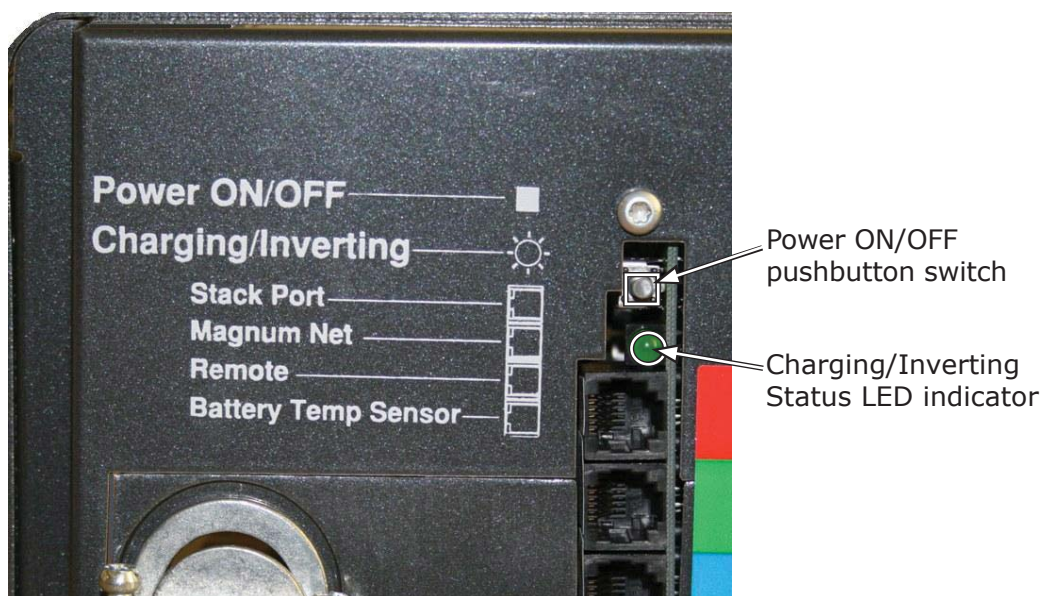

Figure 3-5, Power Switch and Status Indicator
**Power ON/OFF Switch** – The inverter can be turned on and off by lightly pressing and releasing the Power ON/OFF switch on the front of the inverter (see Figure 3-5). When the inverter is first connected to the batteries, or when its automatic protection circuit has turned the inverter off, the ON/OFF switch will need to be pressed to start the unit (or reset per Section 4.4). Once the inverter has been turned on, pressing the Power ON/OFF switch alternately turns the inverter on and off.
**Status LED Indicator** – The status indicator is a green LED (Light Emitting Diode) that provides information on the operational mode of the inverter. Watch this indicator (see Figure 3-5) for at least 10 seconds to determine the inverter's operational condition from the information below: